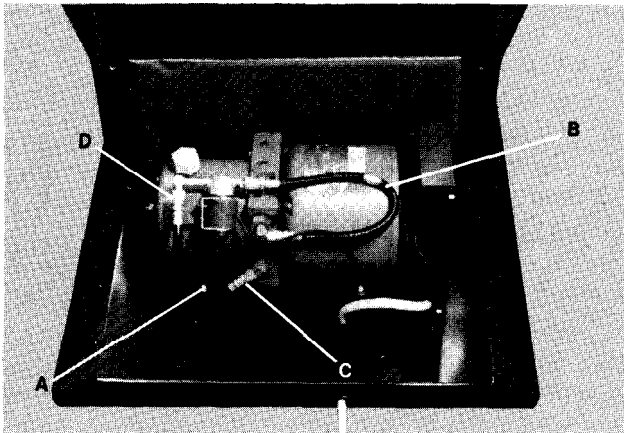

Fig. 36
- 2) Remove the (3) motor leads T1, T2, and T3 from terminal board in Control Box. See Wiring Diagram on Page 31 and Removal of Control Box on page 9.
- 5) Remove the (4) hex nuts, Item A, Fig. 36, securing the motor base in place.
- 6) Tilt motor base and remove the (2) hex bolts securing the motor/pump to the motor base.
- 9) Remove the short pump hose, Item C, Fig. 36, from the pump by removing the fitting with 7/16" & 9/16" wrenches.
- 10) Remove the power hose, Item C, Fig. 36, from the pump by removing the fitting with 7/16" & 9/16" wrenches.
- 13) Place new motor/pump on motor base, align holes on the underside and install (2) 1/2" lockwashers and (2) 11/2"-13 x 3/4 hex bolts.
- 15) Replace power hose, Item C, Fig. 36, on pump, tightening the fitting securely with 7/16" and 9/16" wrenches.
- 16) Replace short pump hose, Item B, Fig. 36, on pump, tightening the fitting securely with 7/16" and 9/16" wrenches.
- 18) Place motor base on shock mounts, align holes, and install (4) 1/4" lockwashers and (4) 11/4"-20 hex nuts, Item A, Fig. 36
- 21) Replace the (3) motor leads T1, T2, and T3 on the terminal board. See Wiring Diagram on Page 31.